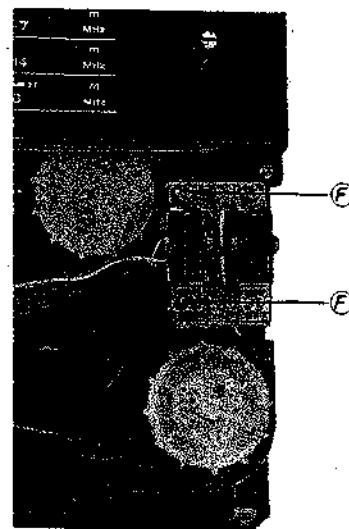

Fig. 2-8 IF-AF circuit board removal, step 4
4. Remove the two screws labeled (F) in Fig. 2-8.